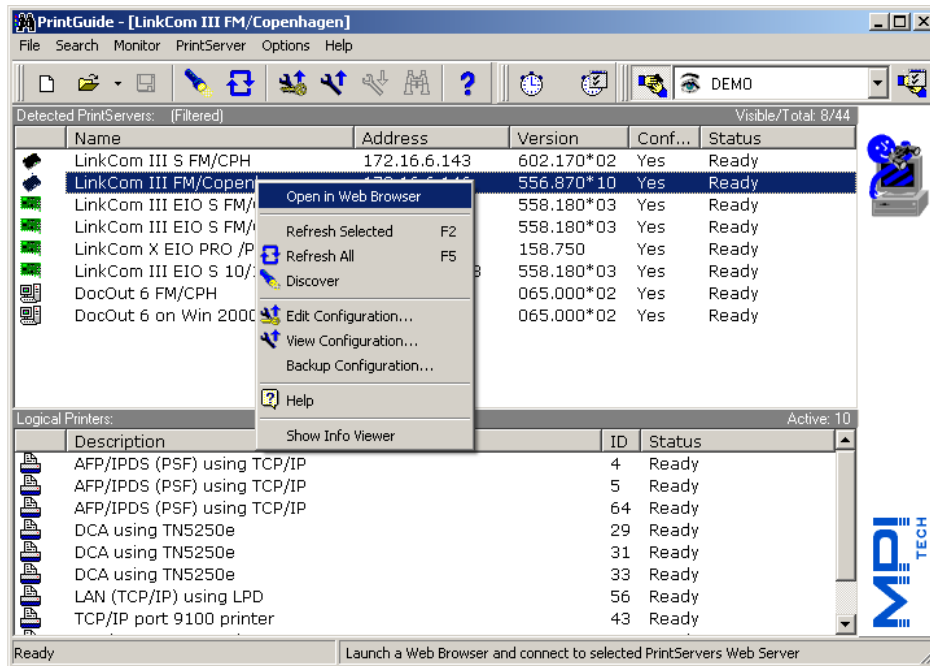

Figure 15, Open in web browser
3. Select **Open in Web Browser** (see the example in Figure 15).